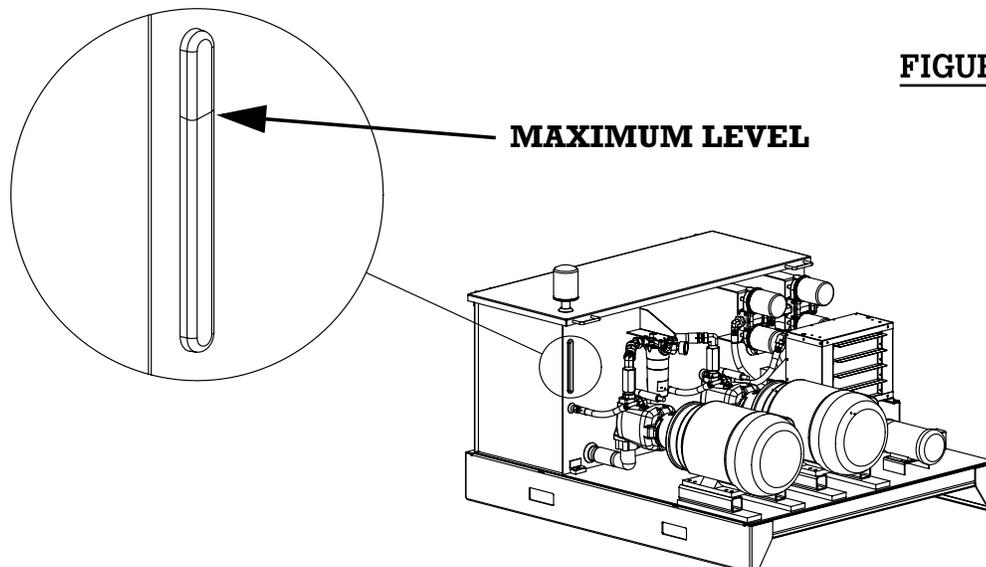

FIGURE 15
24. Verify the power unit oil level every day before energizing the system. (See figure 15) If the hydraulic fluid level is low, add the required amount of clean oil to reach the maximum level. See recommended hydraulic fluid on page 48 for proper type and grade.